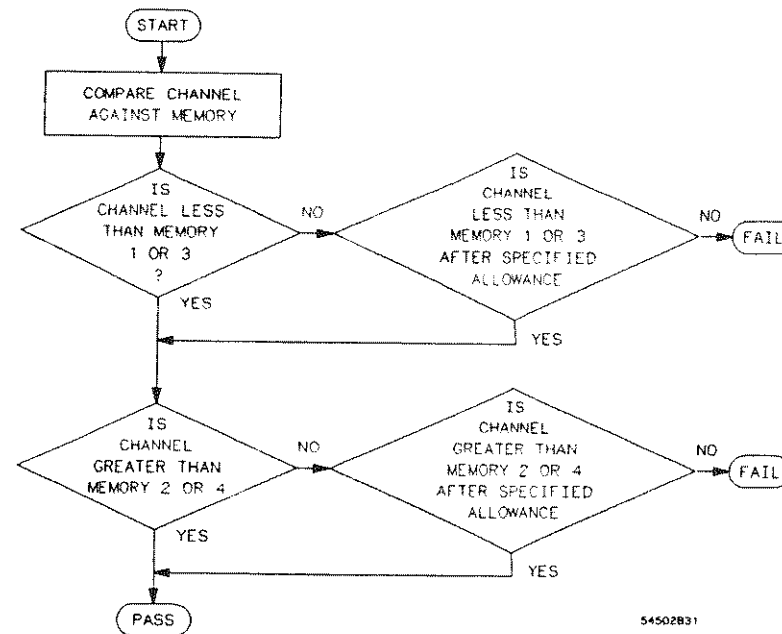

Figure 11-2. Waveform Comparison Test
**allowance Key** When a point on the waveform fails the compare test, the point is tested again against the allowance set in this field. Allowance refers to the distance a point may be above the upper mask or below the lower mask and still pass the compare test. The distance is measured in divisions. The allowance range can be set from 0 to 8 divisions in 1/40 division increments. Figure 11-2 is a flow chart of the waveform comparison test.